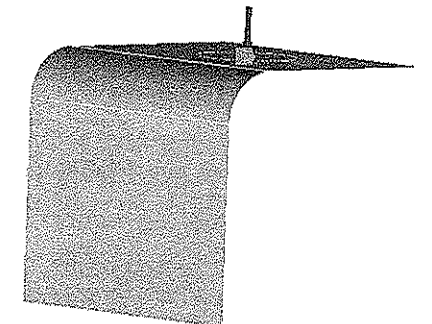

Figure 8-60 Selecting the face to apply Force load
8. Choose the **Face** tool from the **Select** toolbar and then select the patched surface, as shown in Figure 8-60. Next, choose the **Apply** button in the **Geometry** selection box; **1Face** is displayed in the **Geometry** selection box.